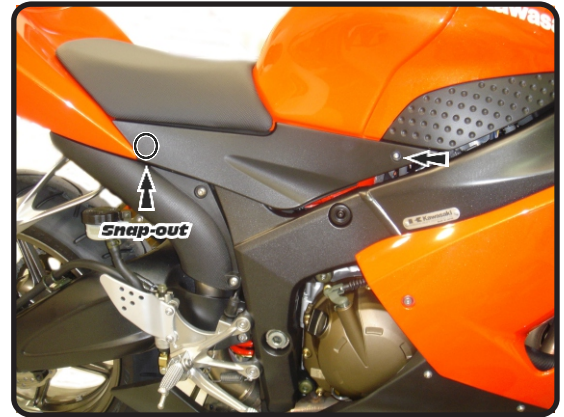

Fig. 1
- 1 Remove right and left black plastic tank side panels (See Fig. 1 and 2).